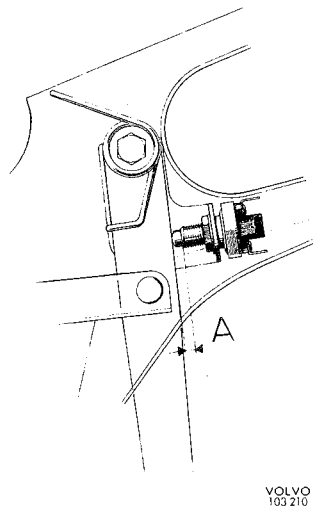
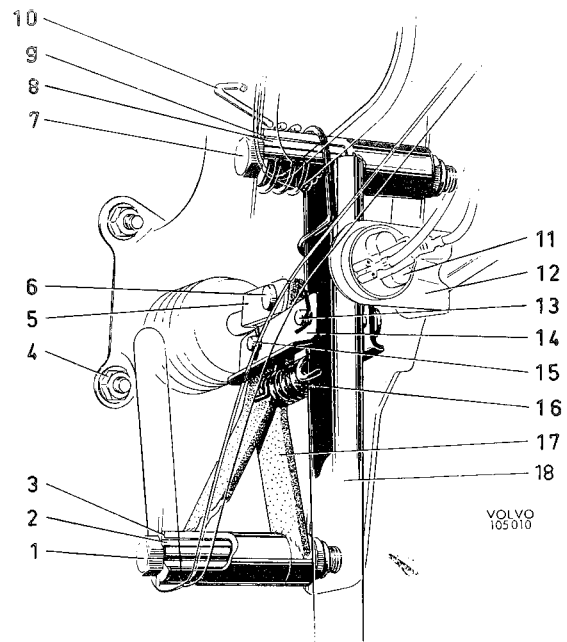

Fig. 5-66. Adjusting brake light switch
Fig. 5-67. Brake pedal suspension components
Check the distance from the brass hub on the brake light switch to the brake pedal, see Fig. 5-66, when the brake pedal is released. The distance should be  $4 \pm 2$  mm (0.16–0.08"). To adjust, slacken the screw for the bracket (12, Fig. 5-67). Remember to tighten the screw after adjustment.
2. Remove the bracket (12, Fig. 5-67) for the brake light switch (11). Remove the split pin and bolt (13). Unhook the return spring (10) and the spring (16). Unscrew the nut for the bolt (7) and pull out the bolt.
3. Lift out the pedal (18).
2. Remove the bracket (12, Fig. 5-67) for the brake light switch. Remove the split pins and bolts (6 and 13). Unhook the return spring (10) and the spring (16). Unscrew the nuts for the bolts (1 and 7) and remove the screws.
3. Lift out the pedal (18) and the link arm (17).
3. Remove the bracket (12, Fig. 5-67) for the brake light switch.